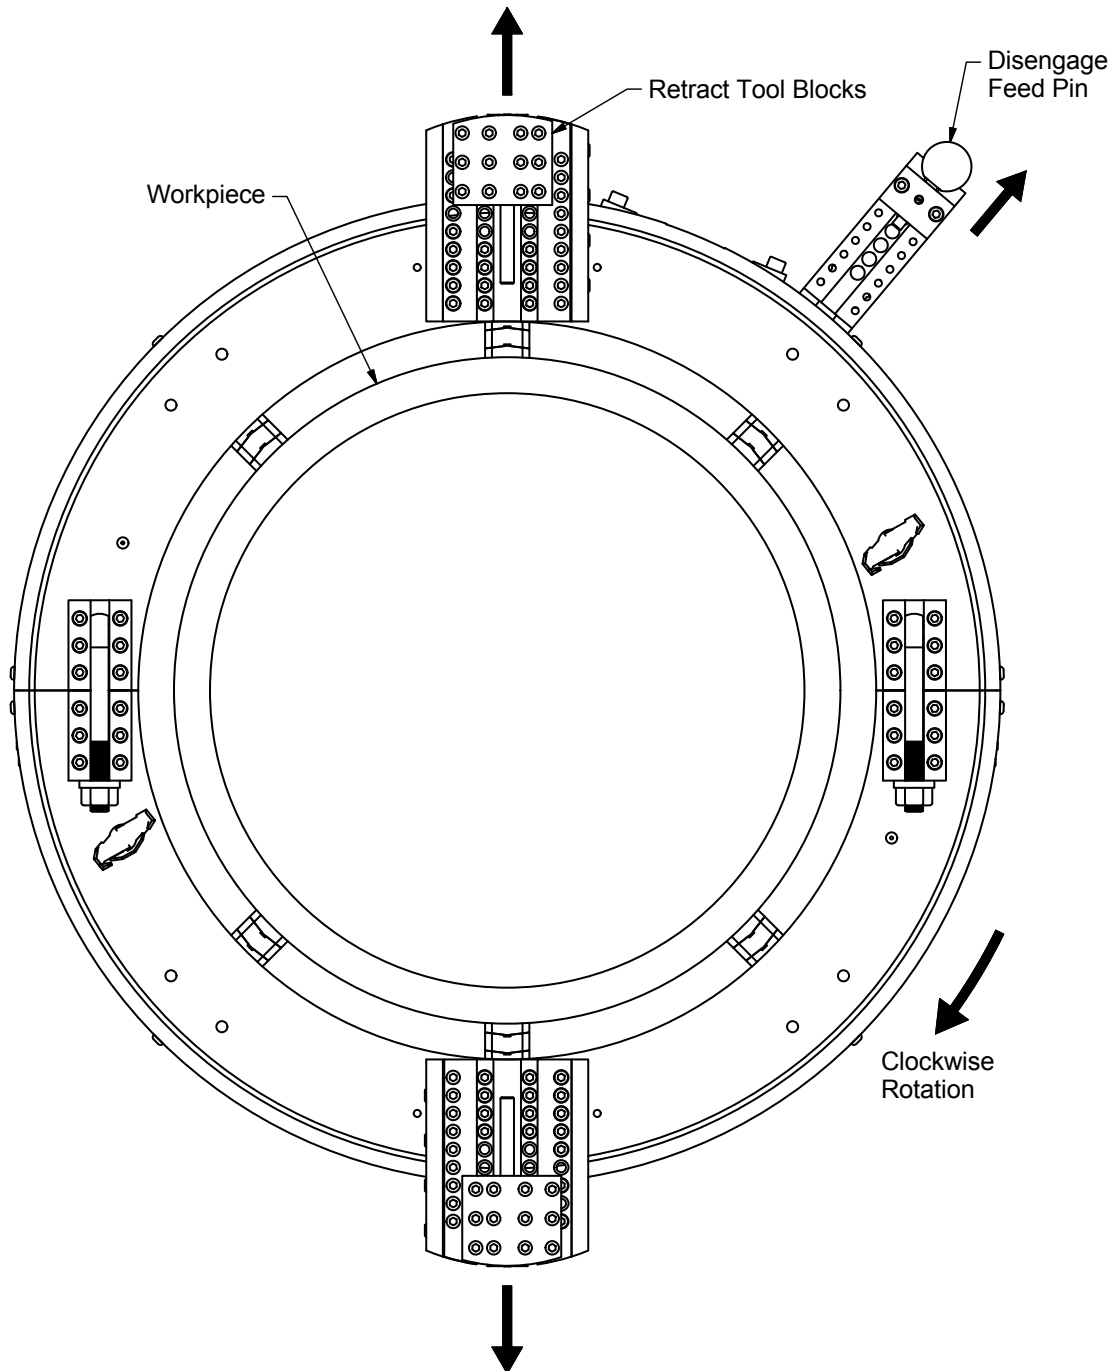

Figure 2-9 – Retract Tool Blocks, Disengage Feed Pin
10. Use a starwheel wrench to retract both tool blocks away from the workpiece. Disengage the feed pin. See Figure 2-9.